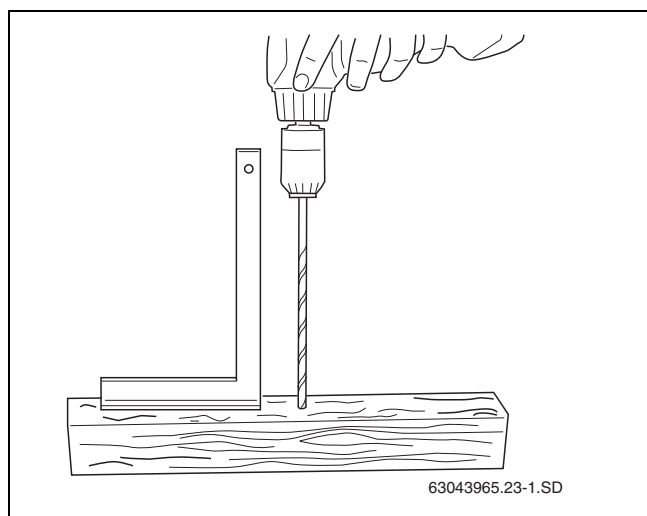

Fig. 21 Creating a drilling template
- Use timber support with an approximate length of 0.50 – 1.00 m. Drill a hole (Ø 6 mm) vertically right through the timber support (Fig. 21).